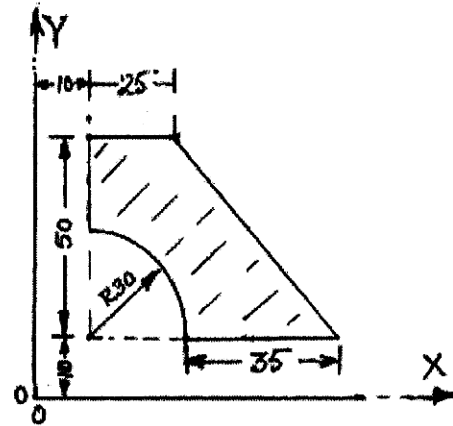

Fig. 8
8. Write a program in APT language for milling the edges of a job shown in fig. 8 using an end mill cutter in a CNC milling machine. 10